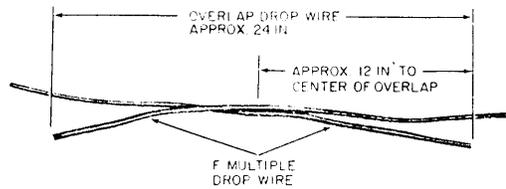

Fig. 21 - Overlap Multiple Pair ASW
7.02 Splice multiple pair pair ASW as illustrated in Fig. 21 through 28.